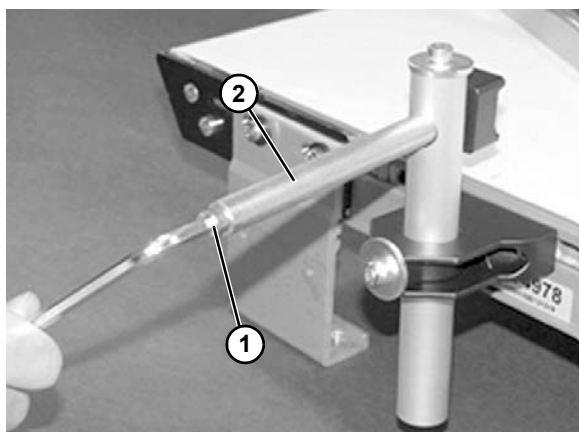
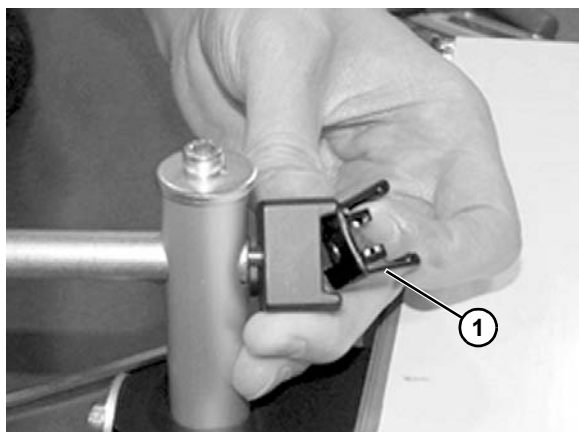
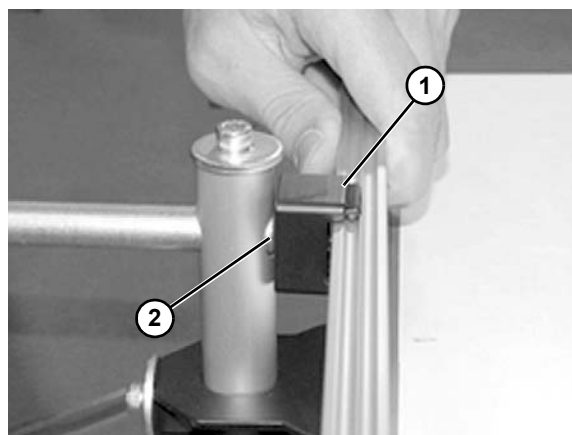

Figure 78
Figure 79
Figure 81
3. Loosen screw (**Figure 78, item 1**) on end of shaft (**Figure 78, item 2**) to remove clip (**Figure 79, item 1**).
5. Reassemble clip (**Figure 81, item 1**) and attach to shaft (**Figure 81, item 2**). Tighten screw (**Figure 78, item 1**) on end of shaft.